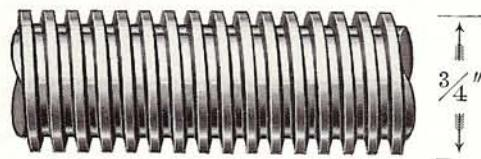

Fig. 23. Section of Acme Thread Lead Screw, Actual Size.
**Lead Screws** for the 9-inch "Workshop" Lathe are  $\frac{3}{4}$ " in diameter, 8 threads per inch Acme standard. The threads are cut on special machines equipped with master precision lead screws. The lead screw is guaranteed to meet the most exacting requirements for cutting accurate screw threads on master taps, precision gauges, etc. Fig. 23 shows the actual diameter of the lead screw.